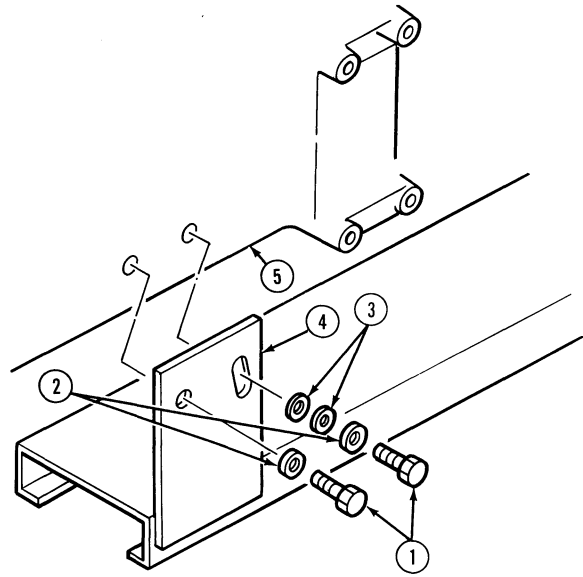
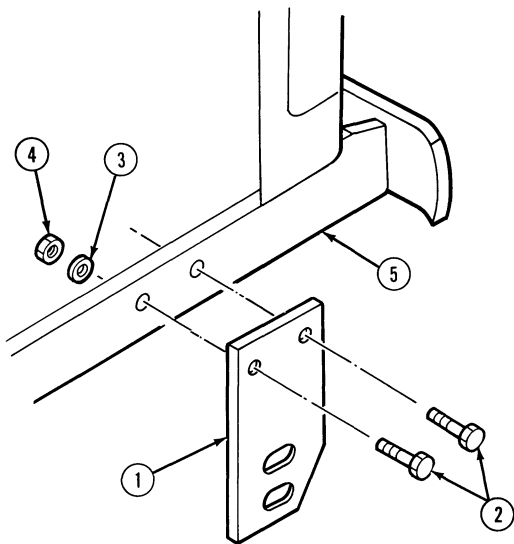
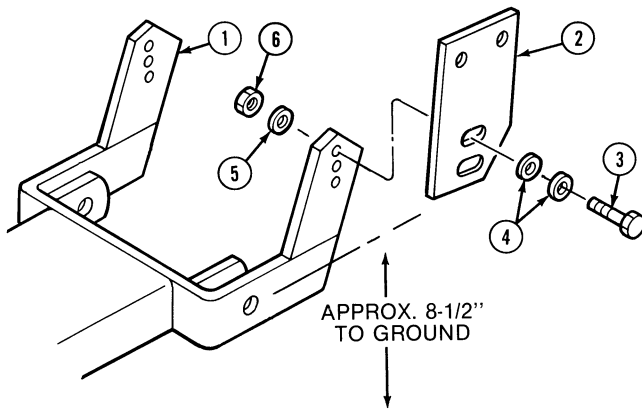

Figure 6
Figure 5
Figure 7
- Attach the front mounting bracket, (1), Figure 5 to the outside of the tractor frame, (5).
Attach the front mounting brackets using four 1/2" NF x 1-3/4" hex hd. bolts, (2), lockwashers, (3), and nuts, (4), as shown in Figure 5. Do not tighten the bolts at this time.
- Attach the rear frame, (4), Figure 6, to the back hole on the side mid section of the tractor, (5),
using two M14 x 1.50 x 30 mm hex hd. bolts, (1), lockwashers, (2), and stud and thread sealer, as shown in Figure 5. Do not tighten bolts at this time.
- Attach the rear frame (1), Figure 7, to front mounting bracket, (2), using two 1/2" NF x 1-3/4" hex hd. bolts, (3), lockwashers, (5), nuts, (6), and four flat washers, (4), as shown in Figure 7. Do not tighten the bolts at this time. Use two flat washers over each slotted hole, as shown.
- Attach the rear frame, (4), Figure 6, to the front hole on the side mid section of the tractor using, two M14 x 1.50 x 30 mm hex head bolts, (1), lockwasher, (2), four flat washers, (3), and stud and thread sealer. Use two flat washers over each slotted hole as shown.
IMPORTANT: Torque the bolts attaching the rear frame to the tractor mid section (Figure 6) to 90-106 lbs.-ft. Torque the bolts attaching the rear frame to the front mounting brackets (Figure 7), and front mounting brackets to the tractor frame (Figure 5) to 80-96 lbs.-ft.